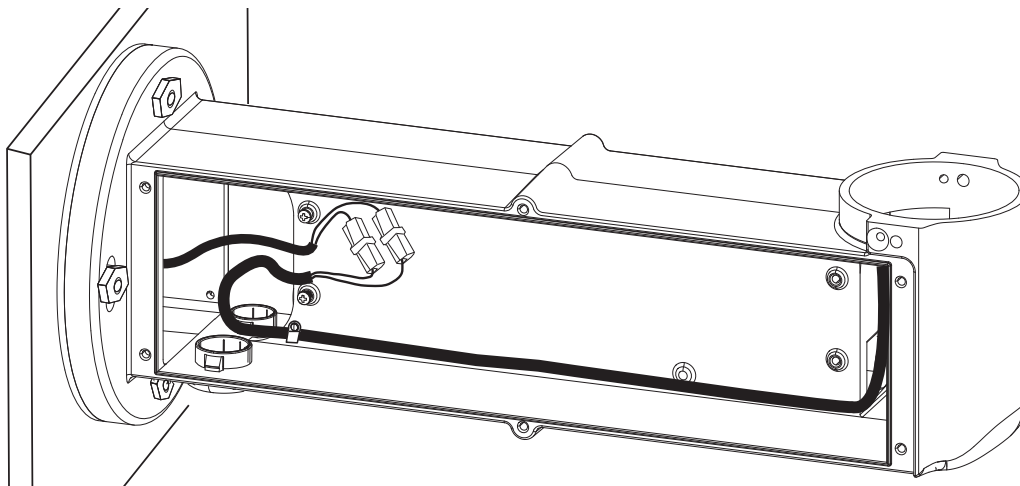
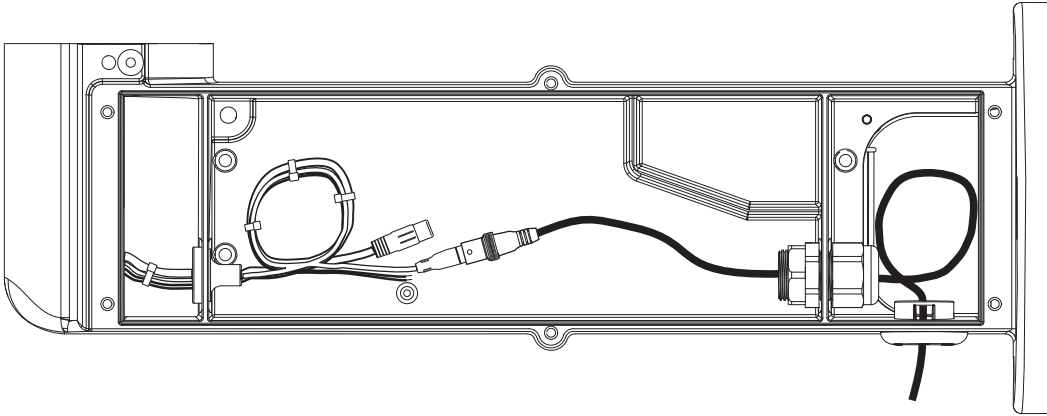

Figure 7. FH-L, FH-M, FH-S Series: Power Connection Area for Low Temperature, High Humidity, and 12 VDC Enclosures
Figure 8. Connecting Ethernet/Coaxial Connections with BNC Connector
- c. Pull the power cables through the rear mount arm opening, and then route them to the opposite side of the mount arm. Figure 7 on page 14 shows the power side of the compartment; Figure 8 on page 15 shows the compartment for the data cable(s).
9. Loosen the rounded PG9 gland bushing nut as necessary to insert the threaded end of the gland through the wall of the IP66 compartment as shown in Figure 8 on page 15.